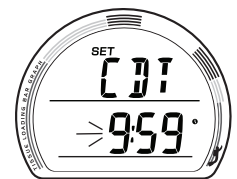

Fig. 108 - SET CDT
**SET CDT**, information is to include (Fig. 108):